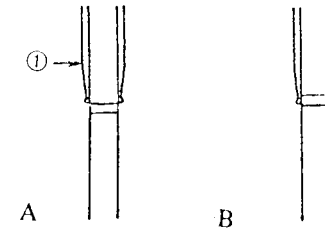

Fig. 13
Step on the pedal fully to release the stop motion trip lever and in that position rotate the needle driving pulley toward the operating direction with your right hand (Fig. 2) and when the needle bar has reached the lowest position, the upper line of the each pair of timing lines (Fig. 13 A), depending upon the length of needle used, should be even with the lower edge of the needle bar bushing ①.